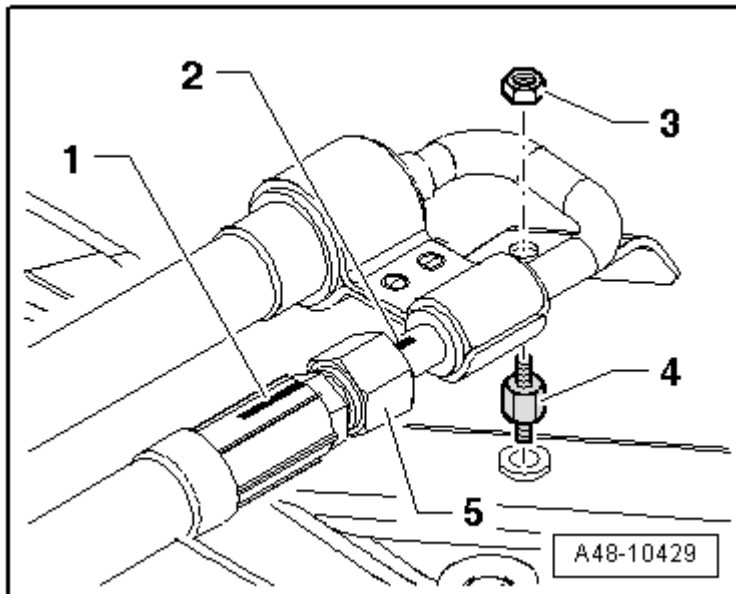

Fig. 34: Pressurized Line To Crossbrace
6. Pressurized line to crossbrace, refer to **Fig. 34**
7. Pressure line connection installation location, refer to **Fig. 34**